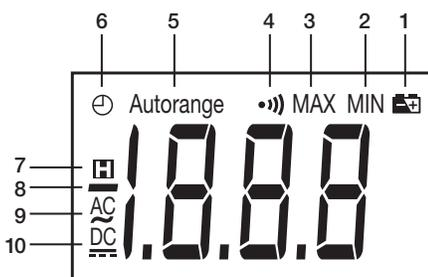

Figure 2
1.2 DISPLAY SYMBOLS (Figure 2)